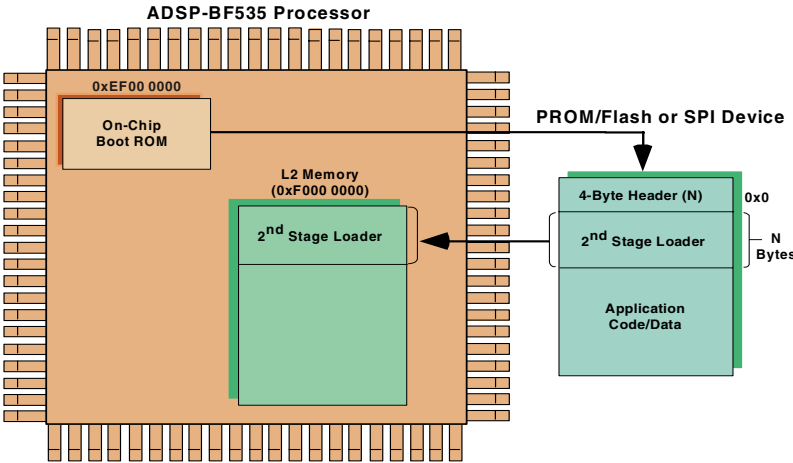

Figure 2-3. ADSP-BF535 Processors: Booting With Second-Stage Loader
1. Upon RESET, the on-chip boot ROM downloads N bytes (the second-stage loader) from external memory to address `0xF000 0000` in L2 memory (Figure 2-3).